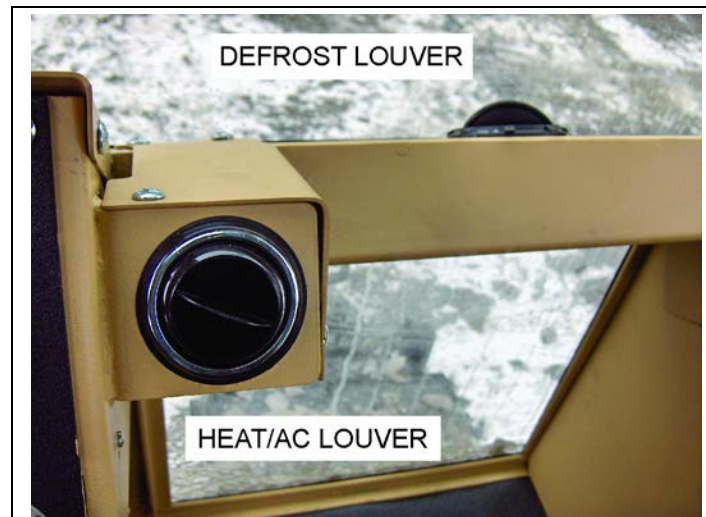

Figure 1-5. Heat/AC/Defrost Vents
1. For heater operation, the AC rocker switch must be off, Figure 1-5.
2. For AC operation, the AC rocker switch must be on, Figure 1-5.